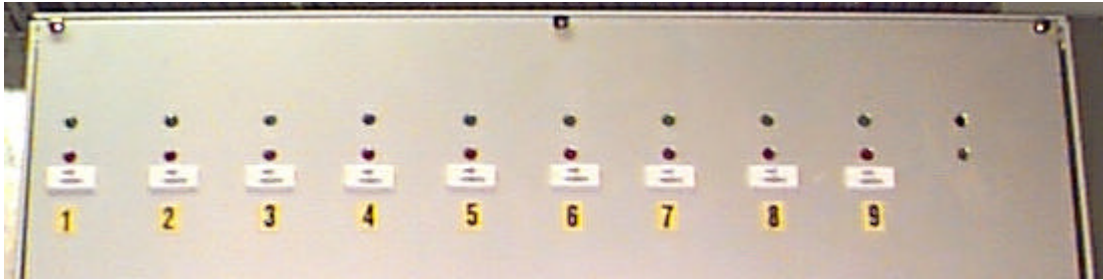

FIGURE 3
- III. Open the cabinet door #4. Check the regeneration boards (figure 3). If any of the boards have the red indicator LED “fully on”, make a note of the suspicious board, close all cabinet doors and contact Electronics Department. If none of the red indicator LEDs are “on” go to step IV.